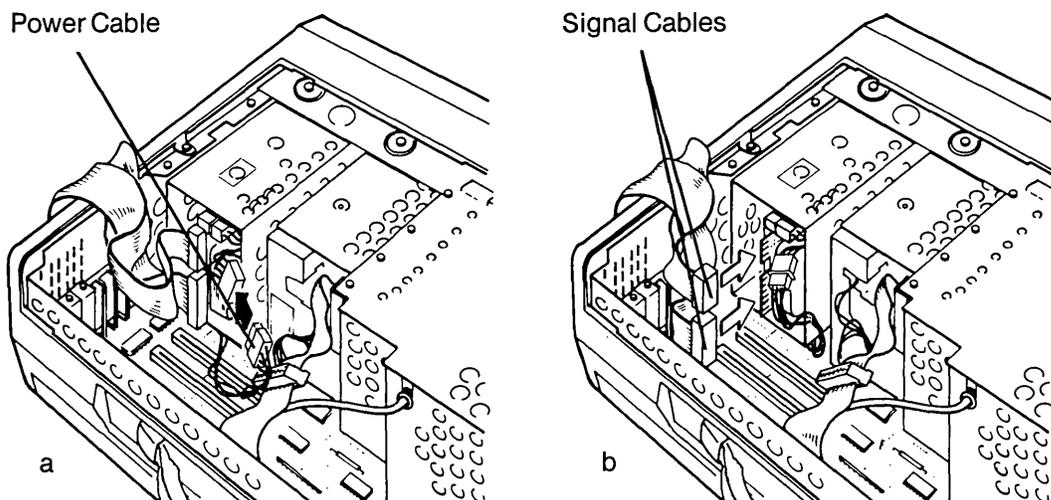

Figure 11-24. Connecting the Power Cable and the Signal Cable to the Fixed Disk Drive.
8. Connect the power cable and the two (2) signal cables to the fixed disk drive (see Figure 11-24 a & b).